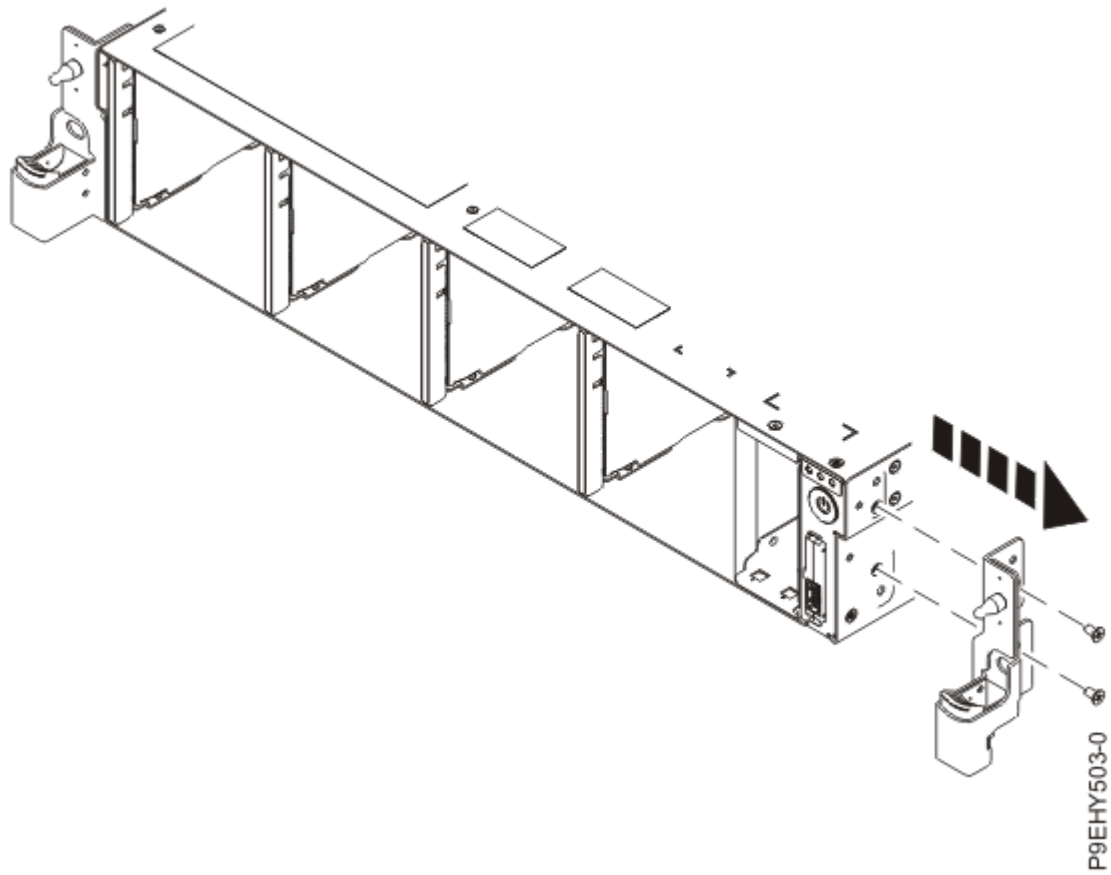

Figure 101. Removing the rack installation support
7. Remove the rack installation support from the side of the system as shown in Figure 101 on page 122.